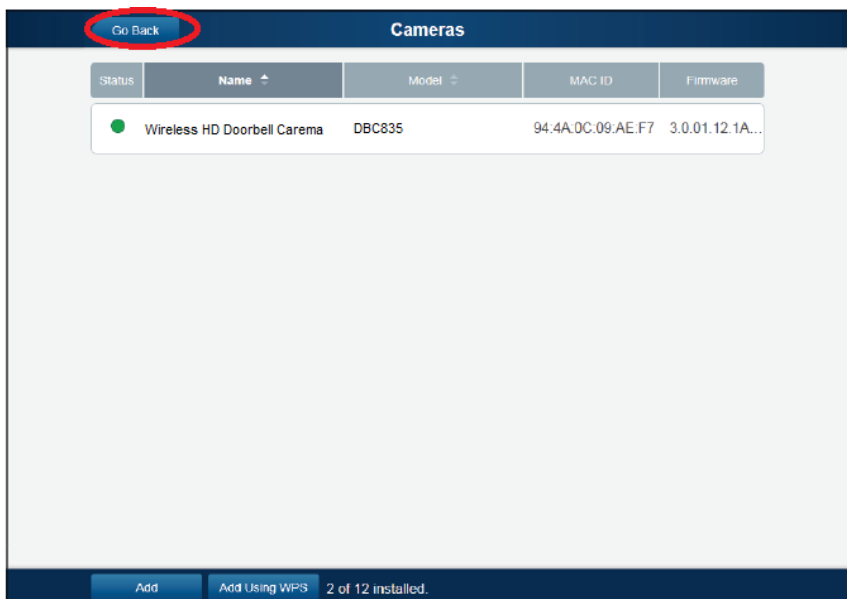

Figure 3-7 Clicking Go Back Button
10. The newly added device will be shown in the Camera List, then click **Go Back** at the top left of the screen as shown in Figure 3-7.